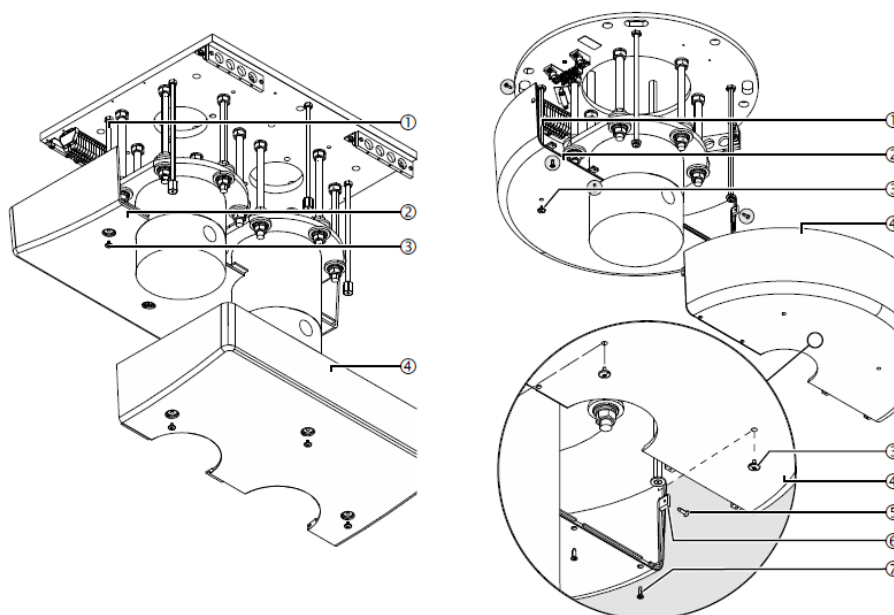

Fig. 56 Fitting the trim halves
- Place the sectional strip (not shown in the figure) on the first half of the trim (2) as shown in figure 56 (optionally, the canopy can be sealed with silicone).
- Fit the first half of the trim (2) onto the M10 x 360 mm threaded bolts (1) and then screw on and tighten the cover screws (3).
- Check that the trim half (2) is flush with the false ceiling. If necessary, refit the 6 threaded bolts M10 x 360 mm (1).
- Place the section rail (not shown) over the second half of the bonnet (4) and push it onto the first half of the trim (2) so that they fit tightly together.
- Fit the second half of the trim (4) onto the M10 x 360 mm threaded bolts (1) and then screw on and tighten the 3 cover screws (3).